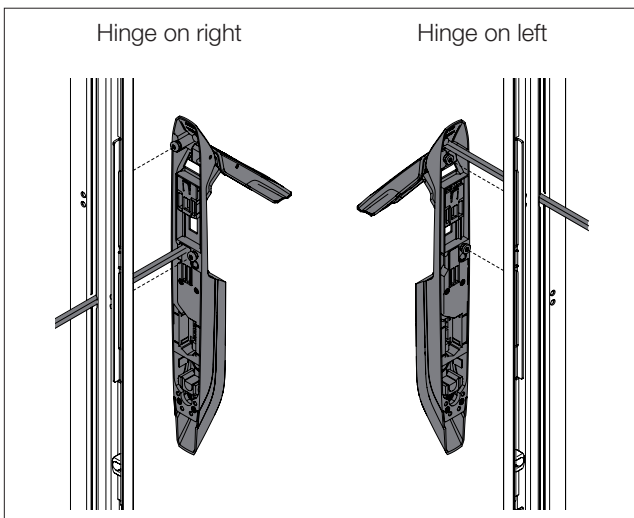

Fig. 13: Attaching the handle
- Attach the handle to the VX glazed door (fig. 13).